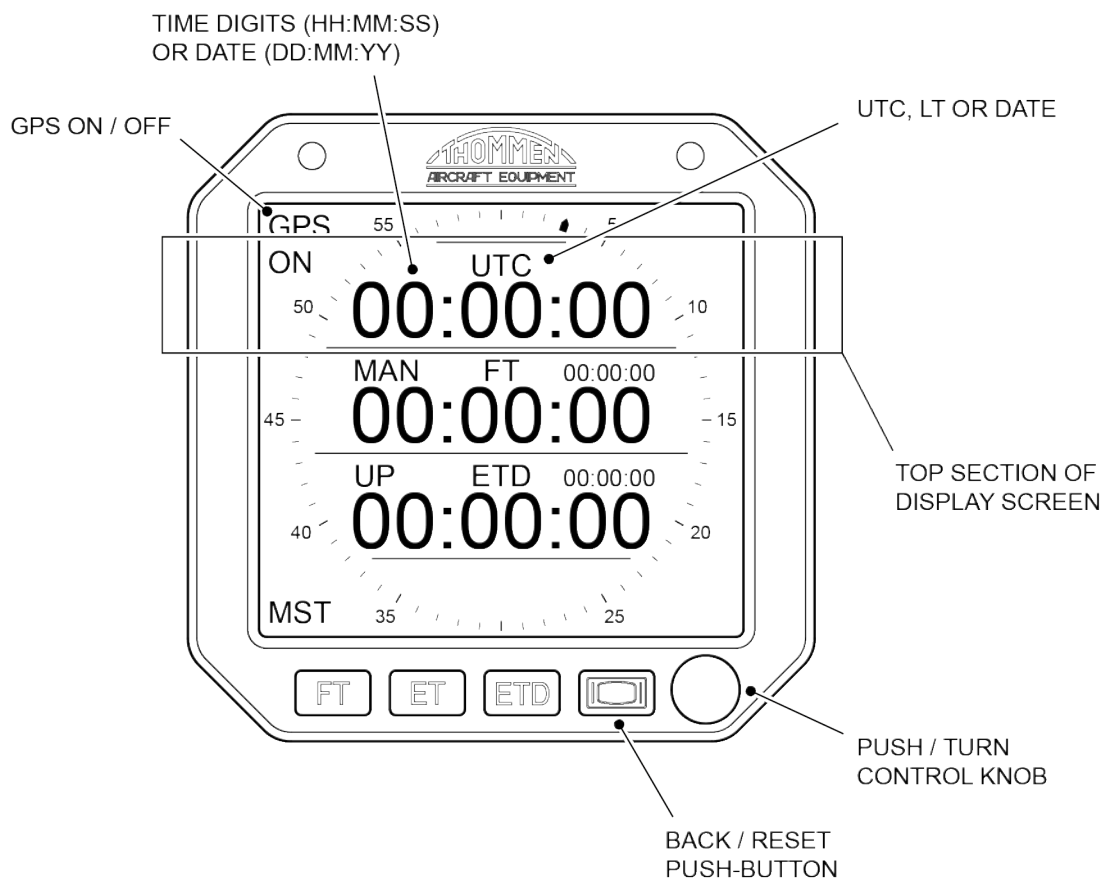

Figure 6 – Top Section of Display Screen
The date, the universal time coordinated (UTC) and the local time (LT) are displayed in the top section of the display screen (refer to Figure 6).